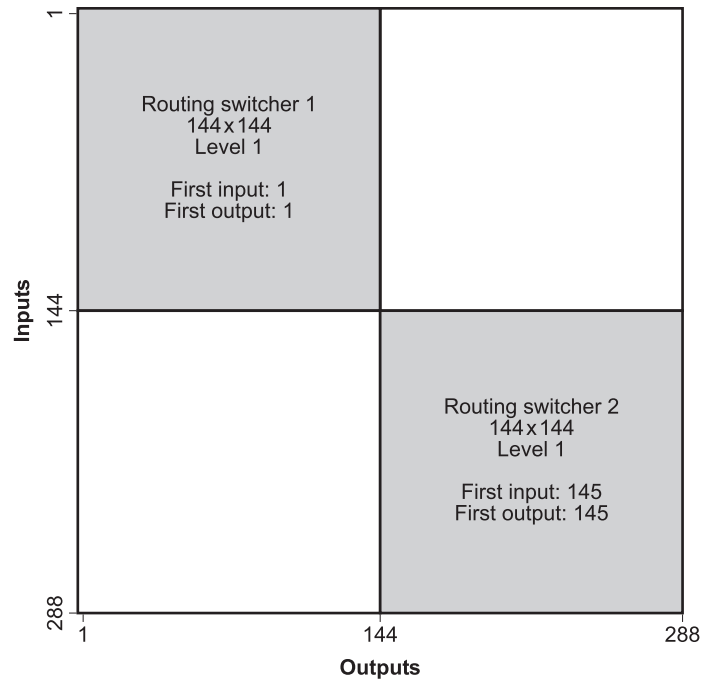

Figure 5.2 Offsetting two routing switchers for independent inputs and outputs
- with independent inputs and outputs (see **Figure 5.2**)